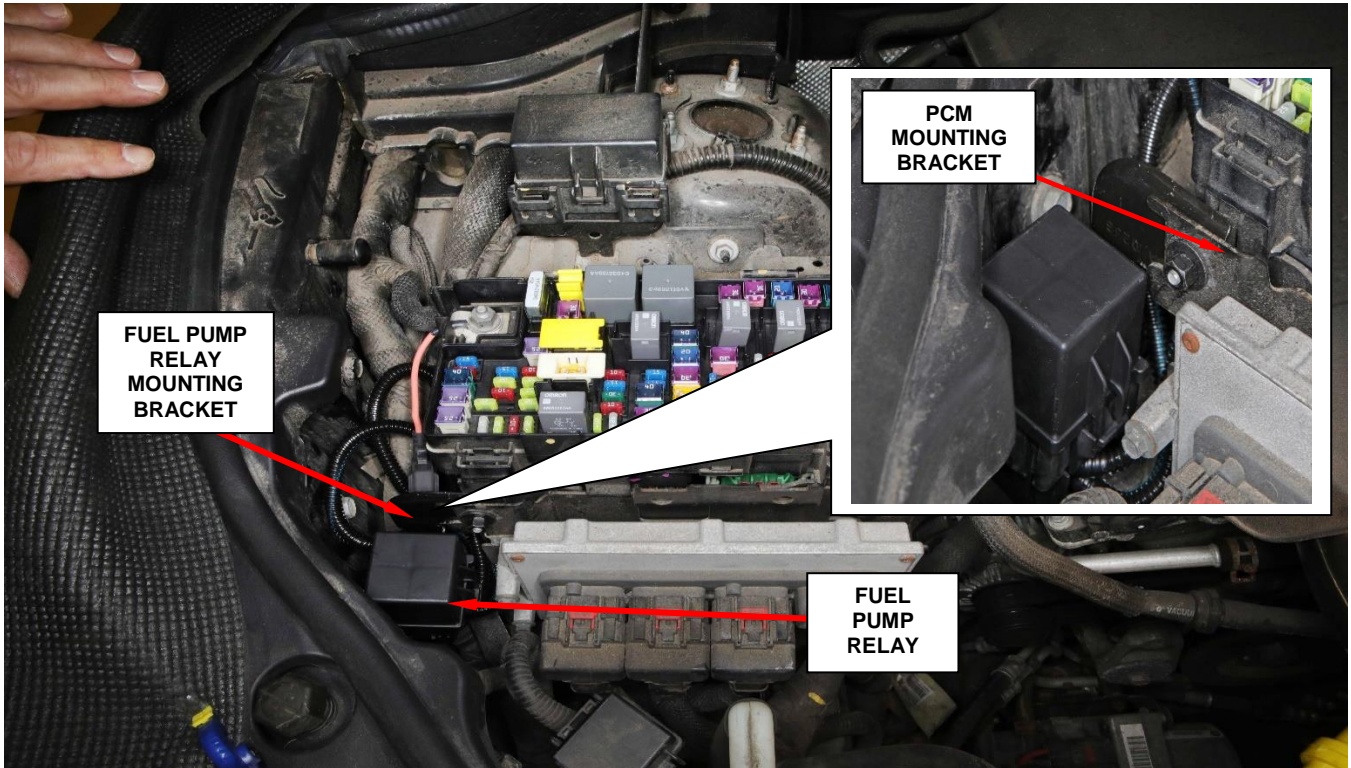

Figure 34 – Mount New External Relay to TIPM bracket
34. Attached the **NEW** external fuel pump relay bracket to the existing hole on the PCM mounting bracket and tighten the nut and bolt to 6N·m (53in. lbs.) (Figure 34).